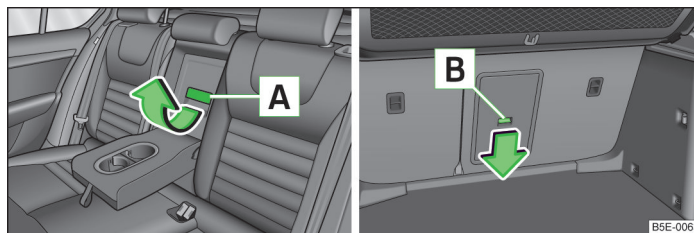

Fig. 74 Rear seats: Cover handle/boot: Unlock button
- Pull the handle **A** » Fig. 74 in the direction of the arrow and fold the cover downwards.
- Push the unlock button **B** » Fig. 74 in the direction of the arrow and fold the cover including the armrest forwards.
Ensure that the armrest is always locked into place after closing. This is apparent as the red field above the unlocking button **B** » Fig. 74 is not visible from the boot.